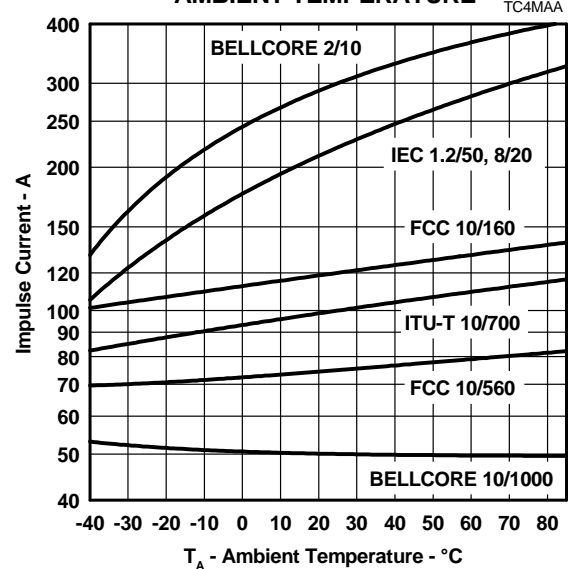

Figure 11.
4. See Applications Information and Figure 11 for current ratings at other temperatures.
Figure 15 and Figure 16. FCC Part 68 allows the equipment to be non-operational after the 10/160 (conductor to ground) and 10/560 (inter-conductor) impulses. The series resistor value may be reduced to zero to pass FCC Part 68 in a non-operational mode e.g. Figure 14. In some cases the equipment will require verification over a temperature range. By using the rated waveform values from Figure 11, the appropriate series resistor value can be calculated for ambient temperatures in the range of -40 °C to 85 °C.